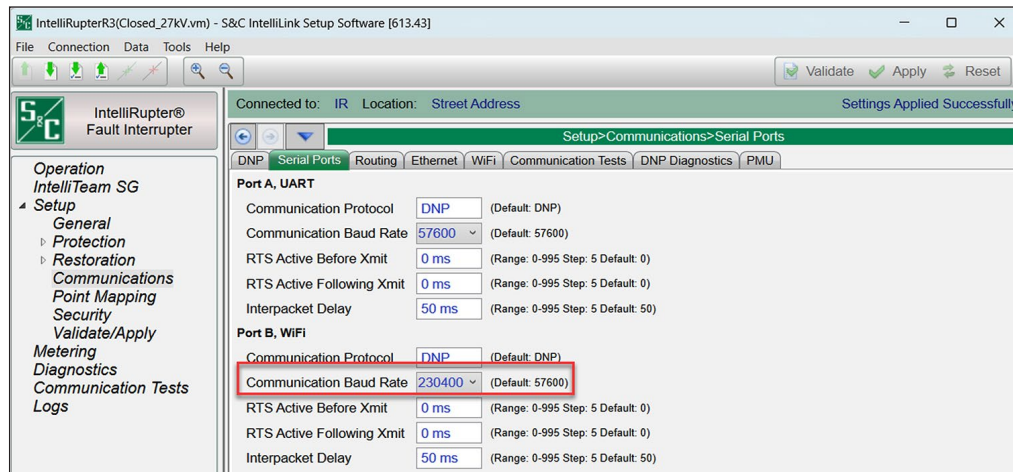

Figure 56. The *Setup>Communications>Serial Ports* screen.
- STEP 6.** Go to the *Setup>Communications>Serial Port* screen and change the **Port B, WiFi Communications Baud Rate** setting to “230,400.” Validate and apply the new setting. See Figure 56.